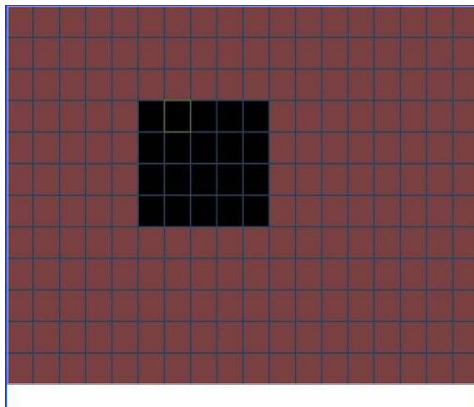

Figure 4-21
- Region: Click select button, the interface is shown as in Figure 4-21. Here you can set motion detection zone. There are 396(PAL)/330(NTSC) small zones. The green zone is current cursor position. Grey zone is the motion detection zone. Black zone is the disarmed zone. You can click Fn button to switch between the arm mode and disarm mode. In arm mode, you can click the direction buttons to move the green
In Figure 4-21, you can left click mouse and then drag it to set a region for motion detection. Click Fn to switch between arm/withdraw motion detection. After setting, click enter button to exit.